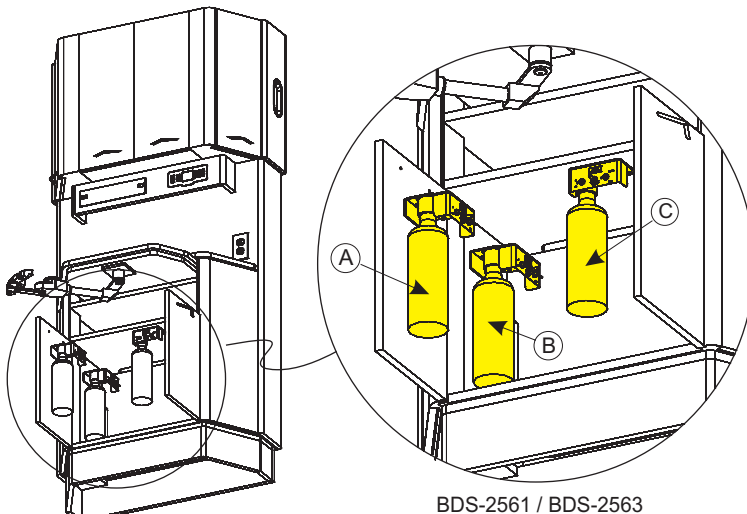

Figure 3
Adjust the (4) Leveling Feet (H) to the desired height using a 5mm allen wrench (see Figure 3). Each Leveling Foot has access to the allen head through a hole in the bottom cabinet.
See Figure 3